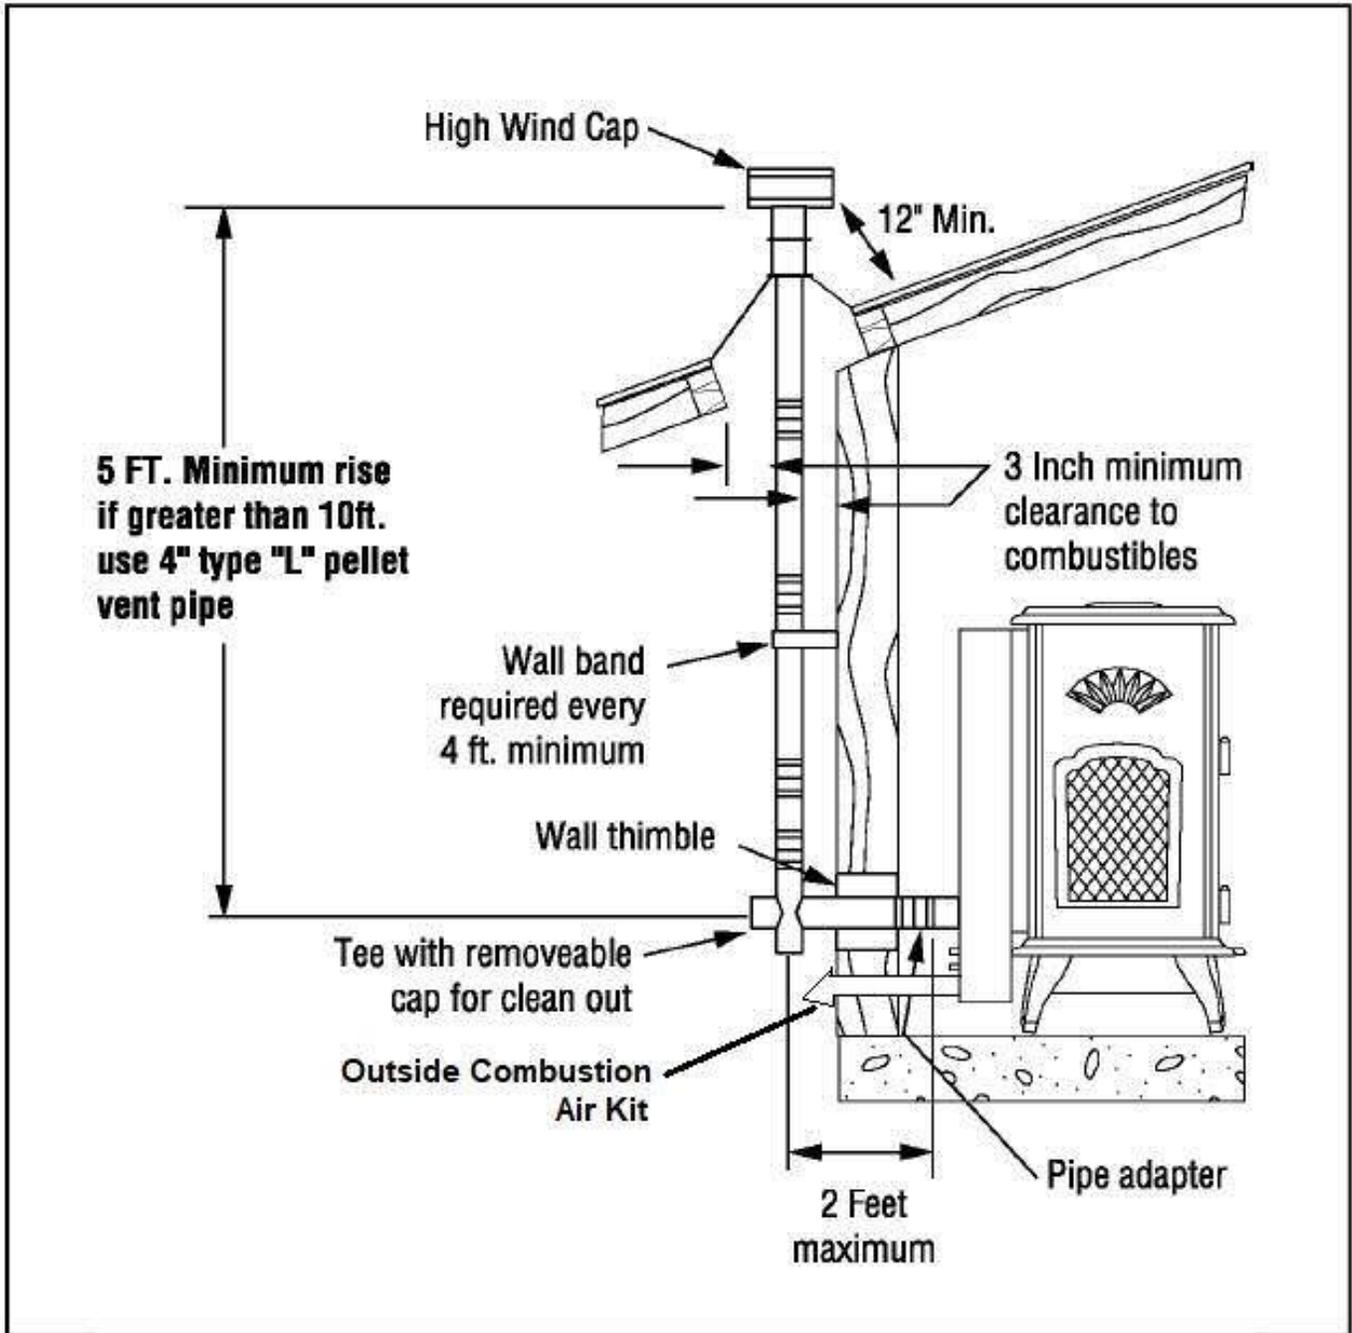

FIGURE 4
- a. When exiting through the wall with your Type "L" pellet vent pipe, you may go straight out through a wall thimble. You must connect a pellet vent tee at this point and extend the vent pipe at least 5 feet vertically outside to provide good draft and allow the gases to exit. The tee must have a clean out cap for inspection and regular cleaning (see Figure 4). Whenever the pipe run in any installation is 10 feet or more, the use of 4-inch Type "L" vent pipe is required.